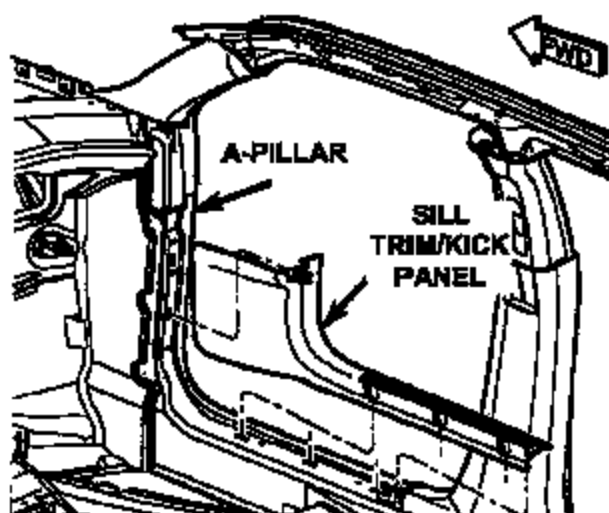

Figure 1
6. Remove the front door sill trim/kick panel (Figure 1).
13. Install the front door sill trim/kick panel (Figure 1).
- b. Remove the front door sill trim/kick panel (Figure 1).
12. Install the front door sill trim/kick panel (Figure 1).